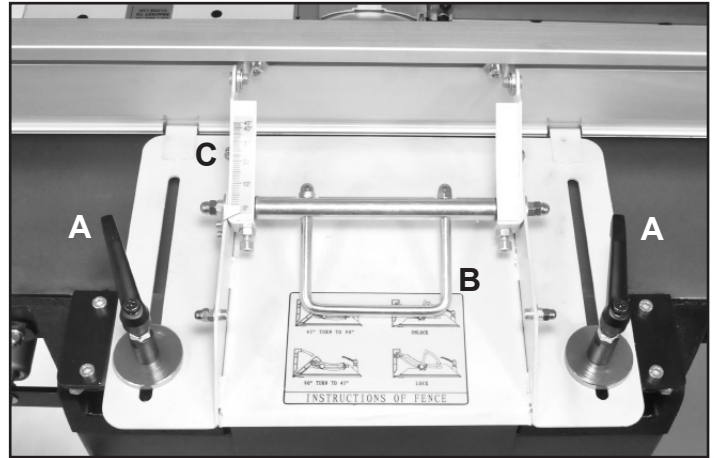

FIG. 7
1. After loosening the Locking Handles (#259, FIG.7, A), the jointer fence can be moved forward or backwards over the jointer bed and cutterhead, to match the workpiece width.
3. Tilt the fence to the angle desired, then re-tighten the locking handle (B), by pushing it down, to ensure the fence is securely in position.